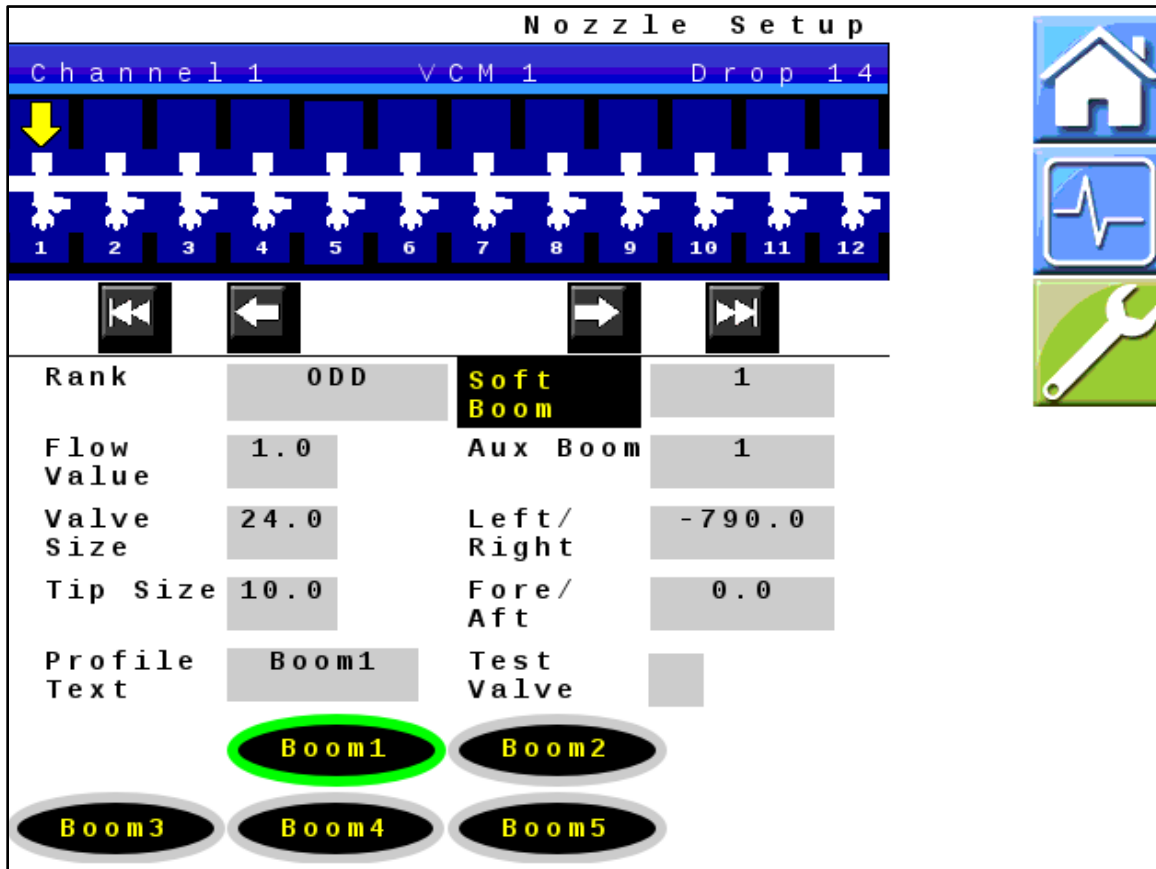

Figure 12 — Nozzle Setup
22. *Figure 12:* Use the Nozzle Setup screen to set up and name custom boom profiles.